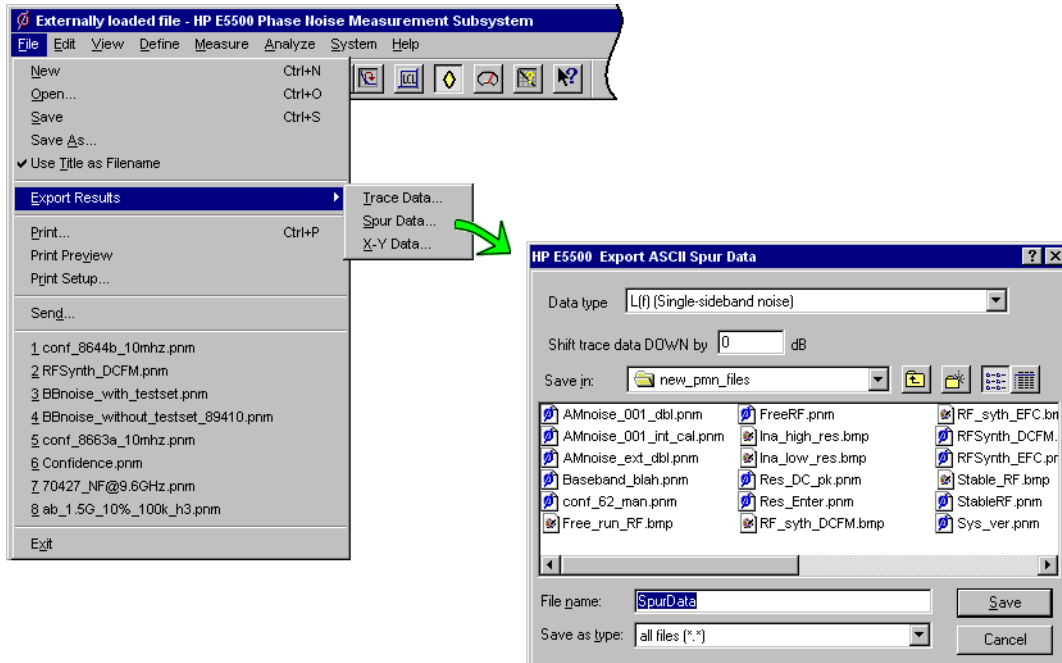

Figure 5-43 Spur Data Results
- 1 On the **File** menu, point to **Export Results**, then click on **Spur Data**. See Figure 5-43.